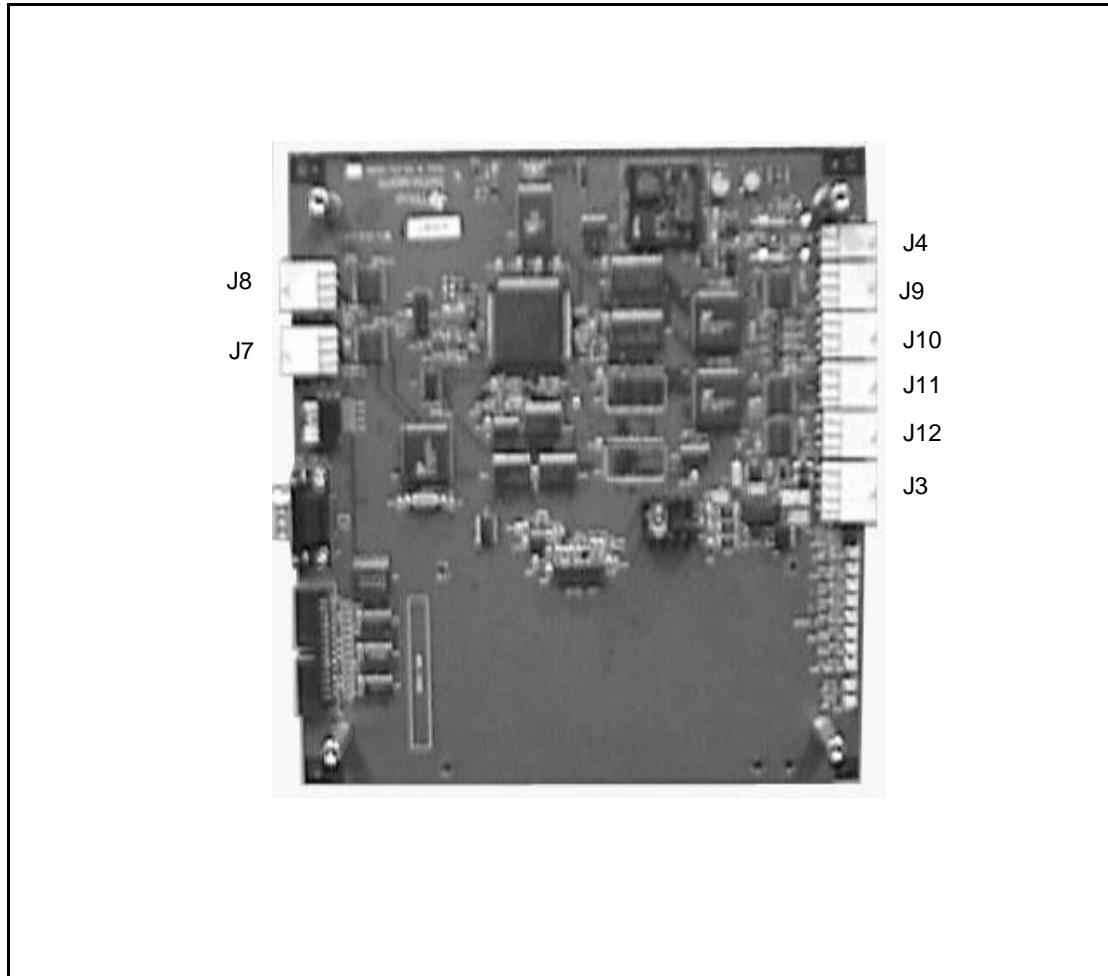

Figure 2-13 DCB Connections
Complete the following steps to install the new cables in the dispenser head. Refer to Figure 2-13 and Figure A-1 (Interconnection Wiring Diagram).
2.9.1 Installing Power and DCB Assembly Cables (Refer to Appendix A Wiring Diagram and Figure 2-13)